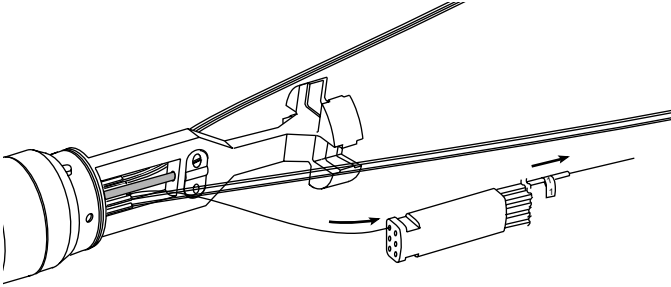

Figure 15
- Feed one fiber at a time and place a number tag on the tubing as the fiber comes out the other end (Figure 15).